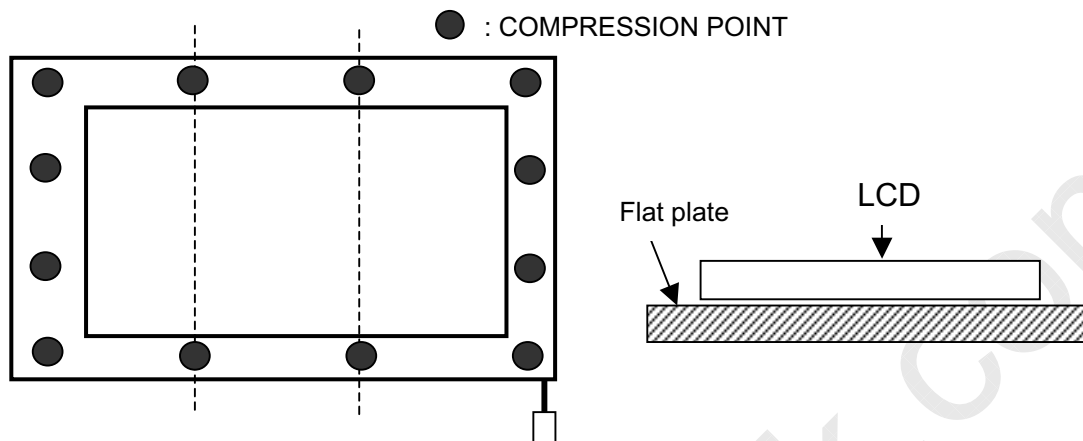

Fig 1-3-1
- (a) Compression point : 12 points ( refer to Fig 1-3-1)